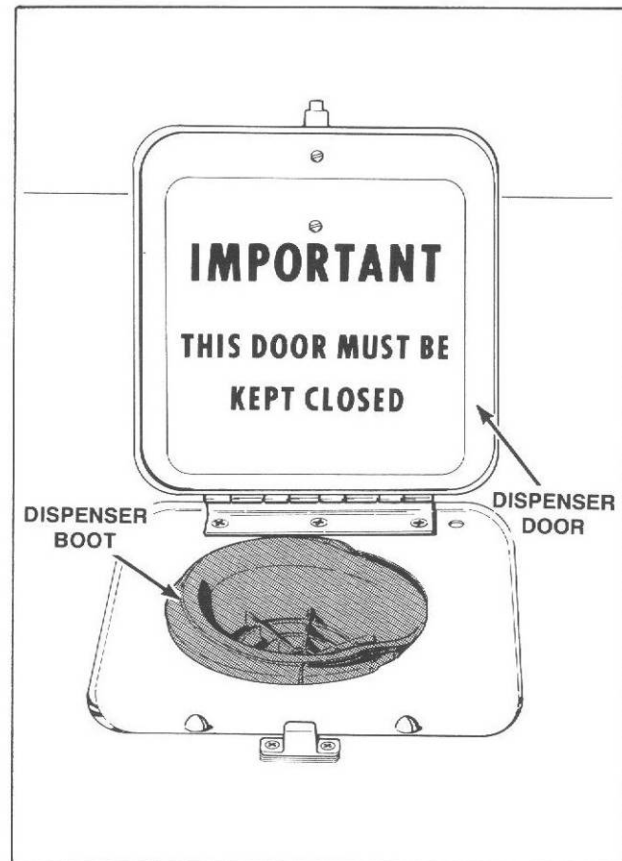

Figure 6
- Open dispenser door, compress dispenser boot and push boot down through cabinet top, Figure 6.